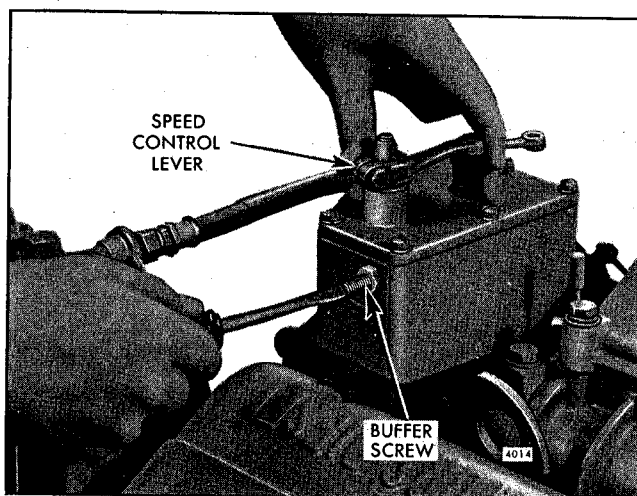

Fig. 16 - Adjusting Buffer Screw
1. With the engine running at normal operating temperature, turn the buffer screw in (Fig. 16) so it contacts the differential lever as lightly as possible and still eliminates the engine roll.